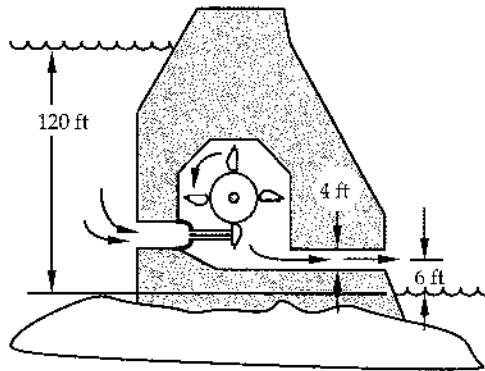

FIGURE P2.50
50. One of the examples in this chapter involved calculations made to determine the power output of a turbine in a dam (see Figure P2.50). When the flow through the turbine was 50,000 gpm, and the upstream height is 120 ft, the power was found to be 1427 hp. The relationship between the flow through the turbine and the upstream height is linear. Calculate the work done by (or power received from) the water as it flows through the dam for upstream heights that range from 60 to 120 ft.